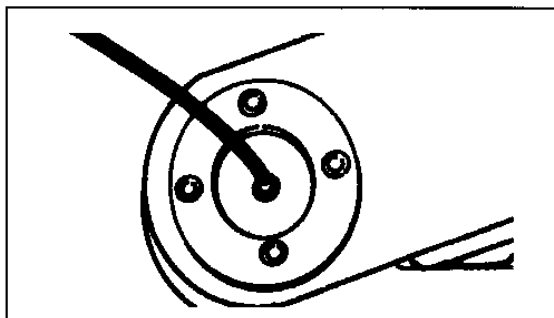

Figure 39 Insert Wire into Terminal
5. Insert wire into terminal; terminal must be centered between indicators. Close handles until handle contacts the stop (Figure 39). Release handles and remove crimped terminal.